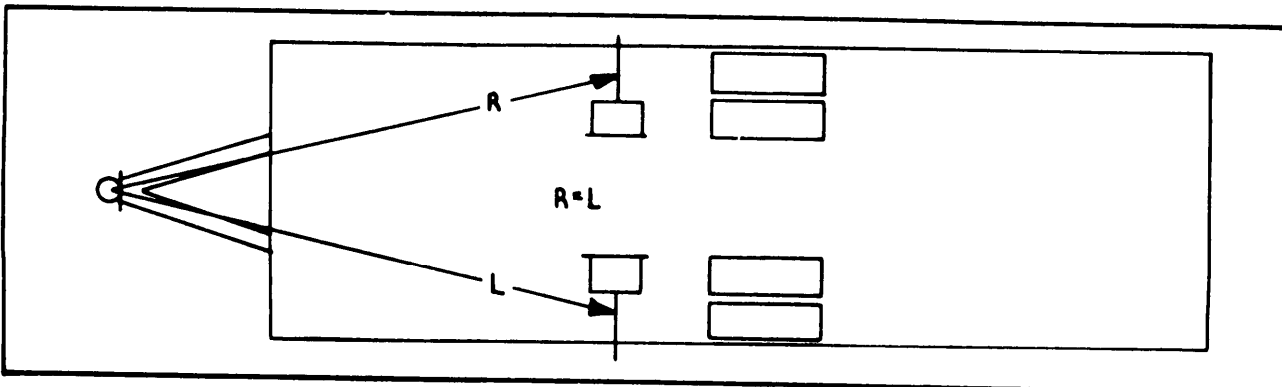

FIGURE 10-1. FRONT AXLE ALIGNMENT.
10-6. ALIGNMENT CHECK PROCEDURE (see figure 10-1).
b. With steel tape measure distance "R" and "L" from lunette eye to center of axle spindle, as shown in figure 10-1.